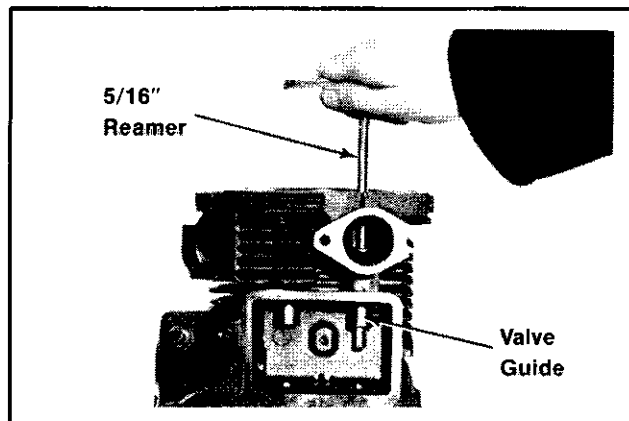

Figure 11-7. Reaming Valve Guide.
3. Valve guides are often slightly compressed during insertion. Use a piloted reamer and then a finishing reamer to resize the guide bore to **.3125"**. Refer to Figure 11-7.